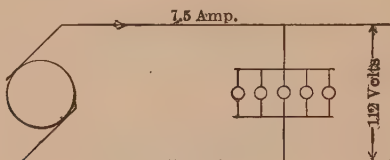

FIG. 48.
**Problem 32.** In Fig. 48, 7.5 amp. flow in the line, and the lamps have 112 volts across them.